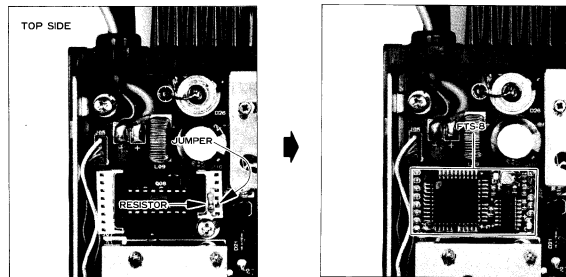

Figure 2.
- (2) Screw the mounting rings to the sides of the transceiver using the supplied spacers and flat washers (Figure 2). Make sure the rings are oriented as shown.
- (2) Referring to Figure 2 for 2m or Figure 3 for 70cm, locate the 6-pin jack with only a jumper and a 56k  $\frac{1}{4}$ -watt (green-blue-orange bands) resistor, and remove the jumper and resistor. These will not be needed again unless the FTS-8 is later removed.
- (3) Press the FTS-8 into the 6-pin and nearby 8-pin connectors, gently rocking it into place. The output tone level (VR1 on the FTS-8) is adjusted at the factory for the proper deviation, so no adjustment is needed.
- (4) Replace the cover(s) and screws removed in step 1.